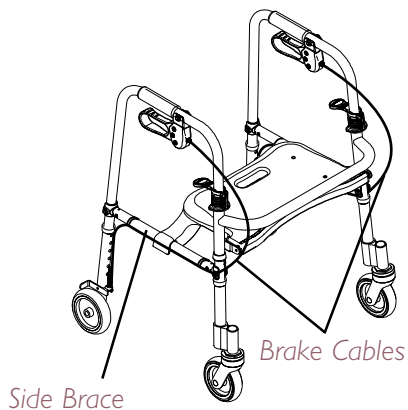

FIGURE 2 - INSTALLING/ADJUSTING LEG EXTENSIONS/BRAKE CABLE
INSTALLING/ADJUSTING LEG EXTENSIONS/BRAKE CABLES (FIGURE 2)
1. Depress the snap buttons on the front legs of the rollator and slide the leg extensions up or down to the desired height. Ensure that the snap button protrudes through the appropriate adjustment hole on the leg extension (FIGURE 2, DETAIL "A").